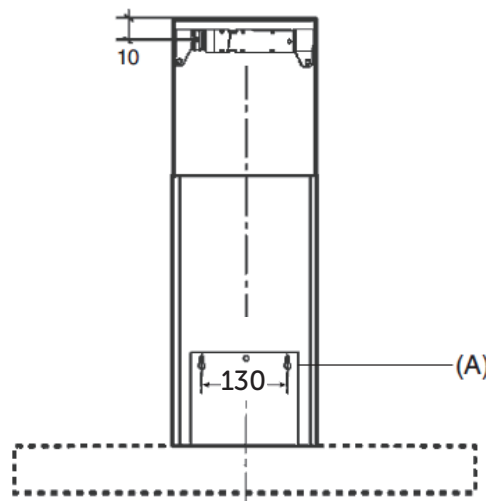

Fig.1
Drill holes (A) according to the distances indicated (Fig.1)